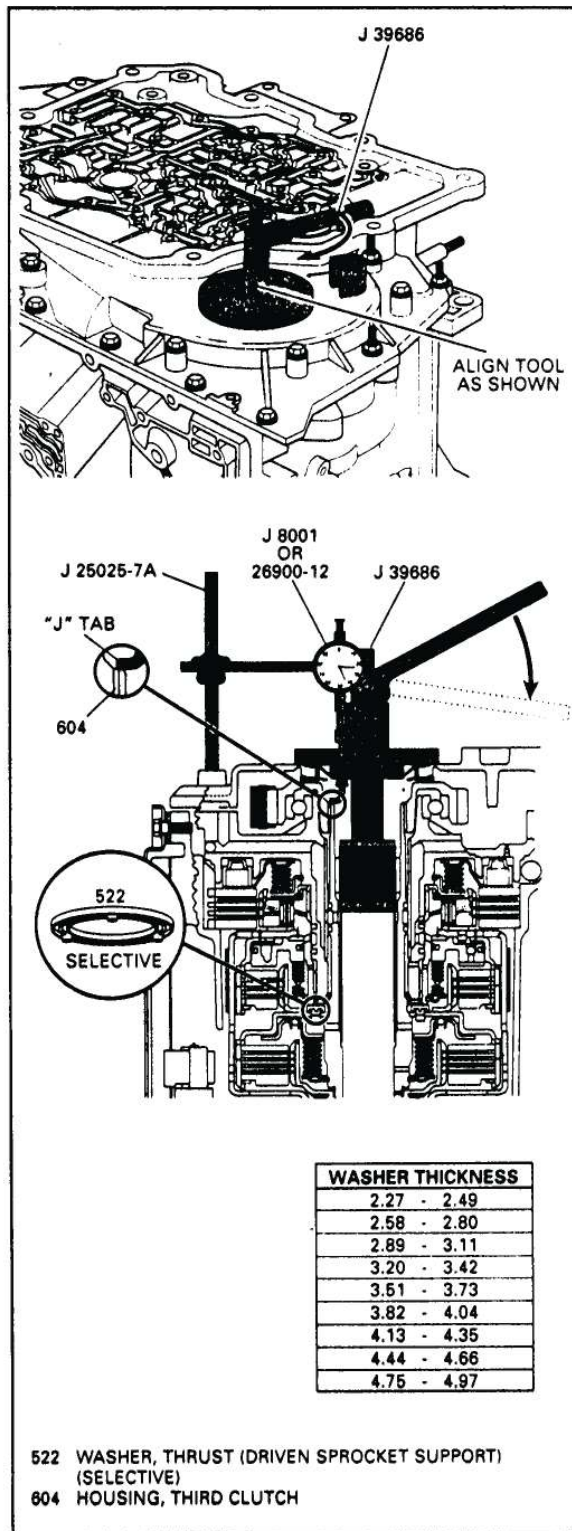

Figure 111
1. Install end play tool J-39686 into the case barrel as shown in Figure 111.
2. Locate the "J" tab on end play tool on top of input shaft as shown in Figure 111.
3. Tool J-39686 must rest flat on case cover seal as shown in Figure 111.
4. Rotate threaded shaft clockwise until tight (See Figure 111).
5. Insert collar between flange and the handle of end play tool as shown in Figure 111.
6. Install dial indicator as shown in Figure 111, with the tip of the dial indicator resting on top of tab.